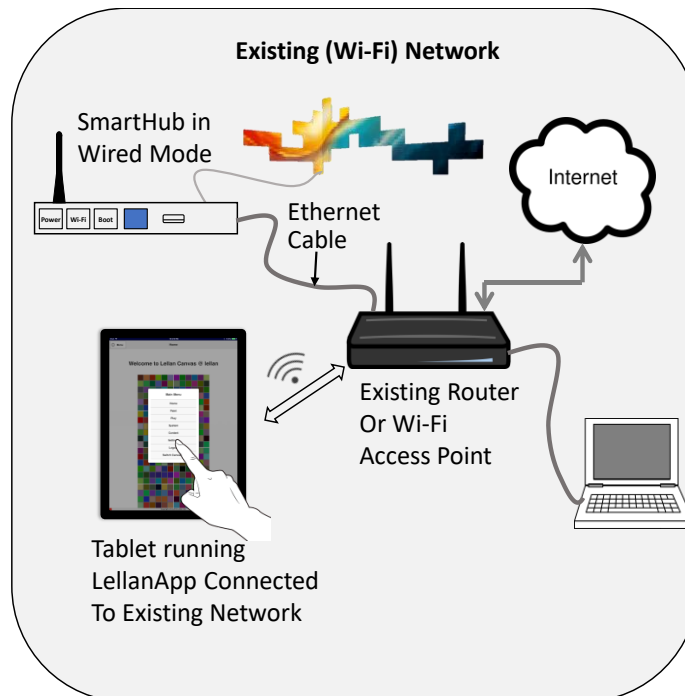

Figure 4-3: Wired Mode Illustrated
3. *Wired mode*: The SmartHub joins an existing local area network (LAN) via a hardwired Ethernet connection (see Figure 4-3). The app device joins the same network via either Wi-Fi or a hardwired Ethernet connection.